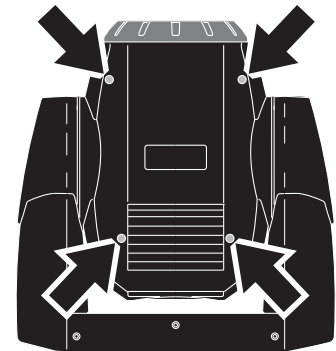

Figure 1
2. See Figure 1. Release the head cover retaining screws (arrowed) and remove both head covers. You can either let the head covers hang on their safety cables or unclip their safety cables and remove them completely, whichever is more convenient.